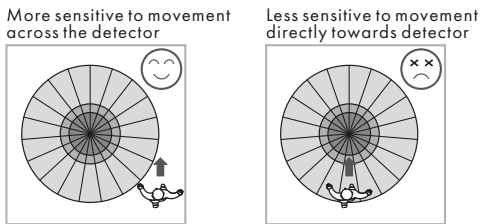

FIG.4
- 3.1.2.3 Pay attention to the walking direction in the test proceeding (See FIG.4).